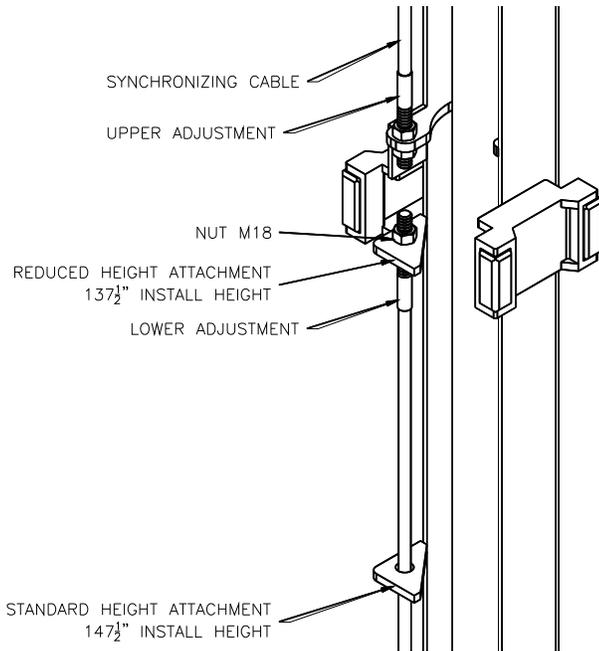

Fig 5 – Synchronizing Cables
- 16) Attach one end of synchronizing cable to carriage. See **Fig 5** for proper attachment.
- 17) Route cable up and over sheave in overhead. Follow across to other sheave on opposite column. Route down through carriage to sheave in bottom of column. Route under sheave and up to cable attachment. Lower attachment point is used for Standard Height Installation (175") and the Upper attachment point is used for Reduced Height Installation (166"). Use **Fig 5** for proper attachment.